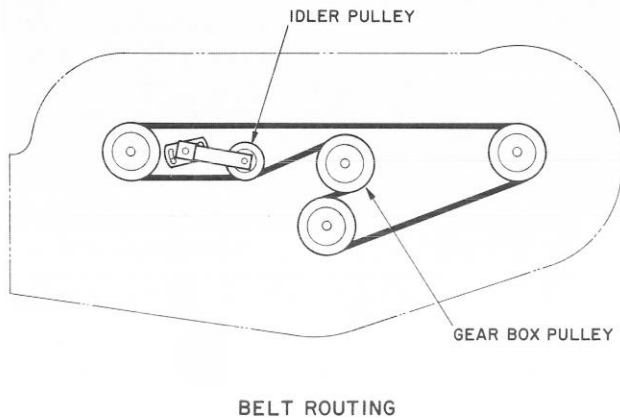

Figure 38
5. Install new belt around gear box pulley, spindle pulleys and idler pulley (Fig. 38).